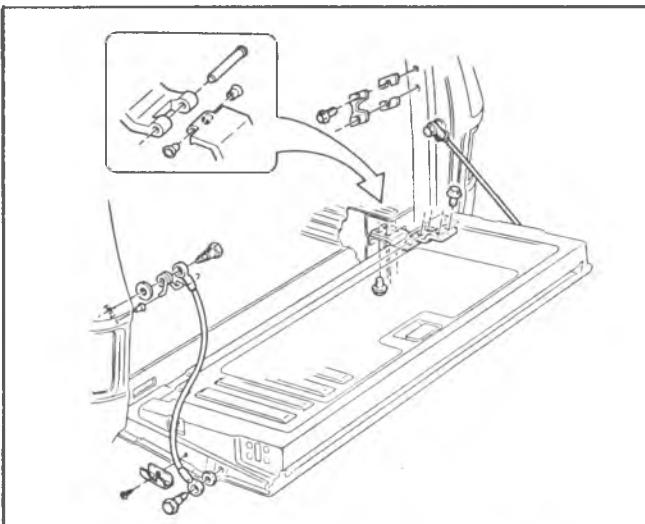

Fig. 55—Endgate, Hinges and Support (14)
1. Lower endgate, then remove four bolts securing hinge to body on each side. See figure 55.
disconnect support cables from endgate. See figure 55.
1. Lower endgate and disconnect hinge to be replaced by removing hinge-to-body bolts. See figure 55.